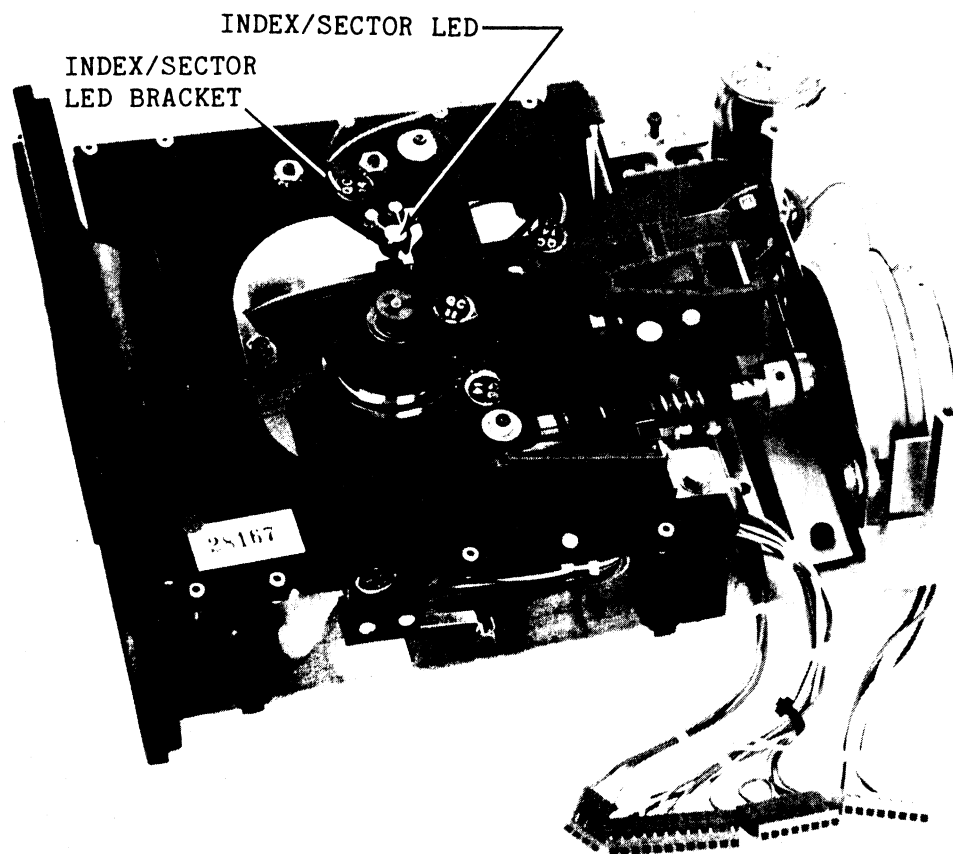

Figure 6-11. Index/Sector LED Assembly Details
- a. Remove the two LED Assembly retaining nuts and washers (see Figure 6-11).